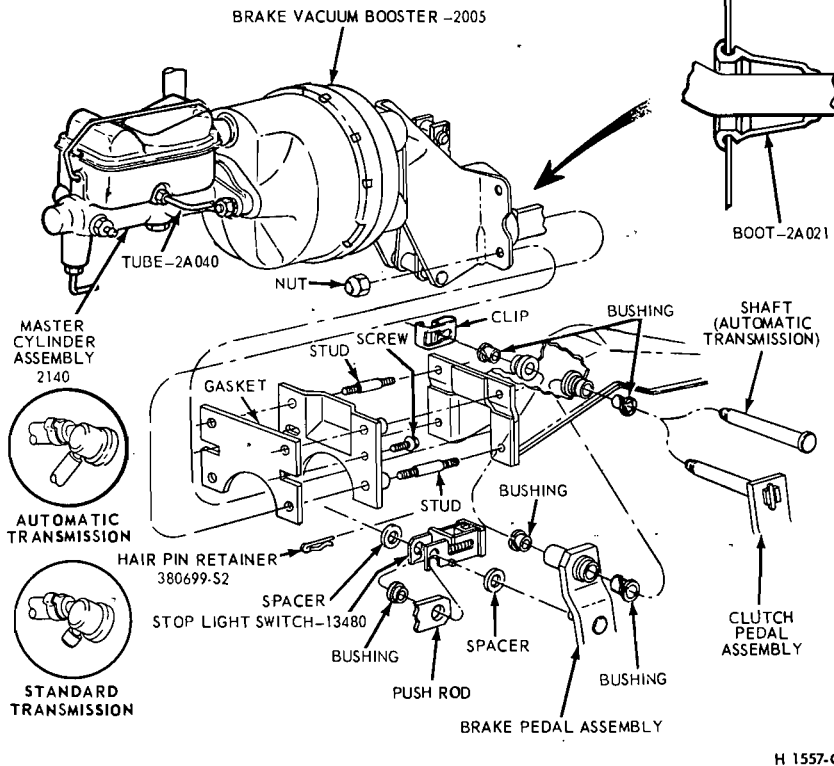

FIG. 14 Master Cylinder Installation—Power Brake—Torino and Montego
1. On Torino and Montego models, install the push rod link boot in the hole in the dash panel as shown in Fig. 14. Install the four spacers on the mounting studs.